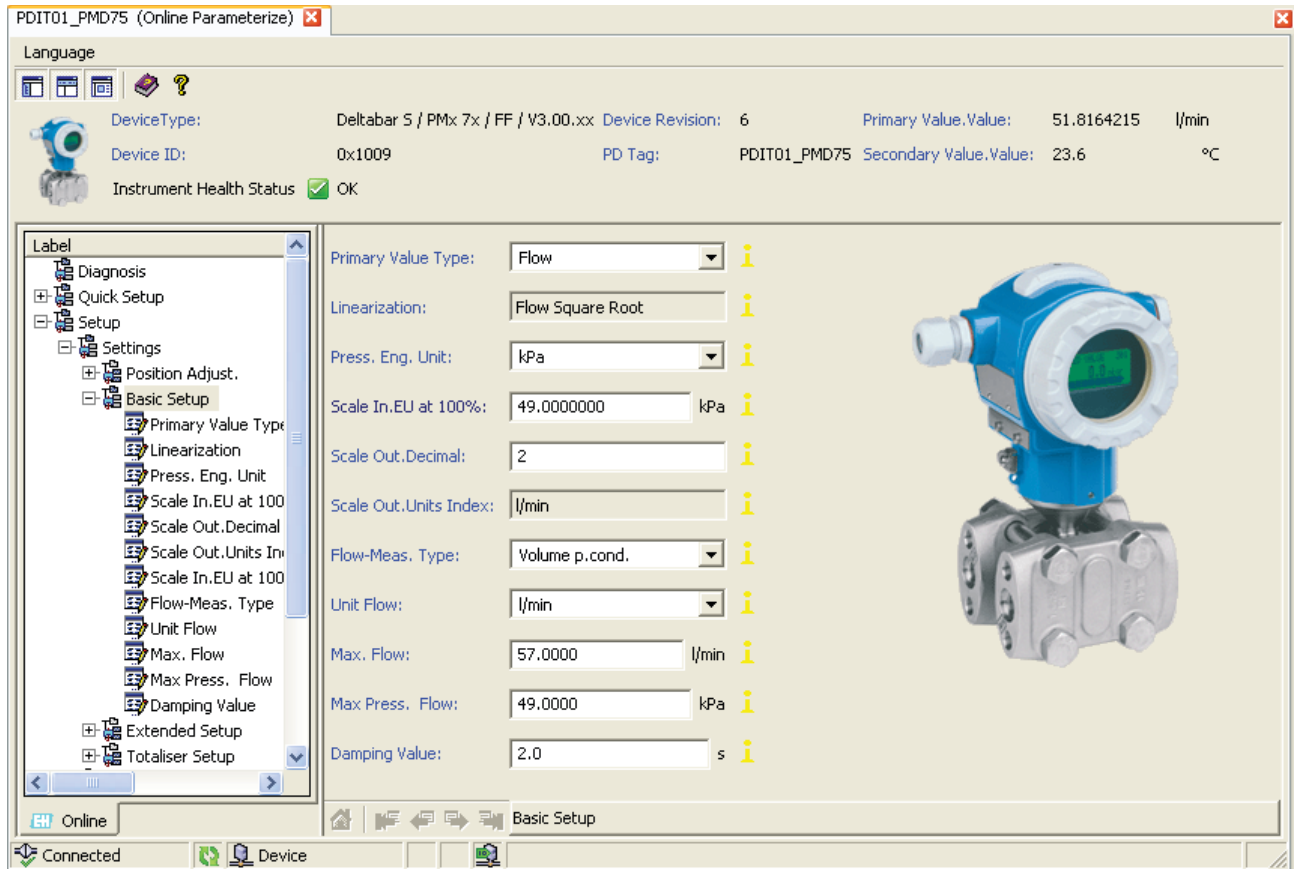

Figure 2-19. BASIC SETUP screen.
31. Go to *Setup ► Settings ► Basic Setup* as shown in Figure 2-19 and make the following choices: